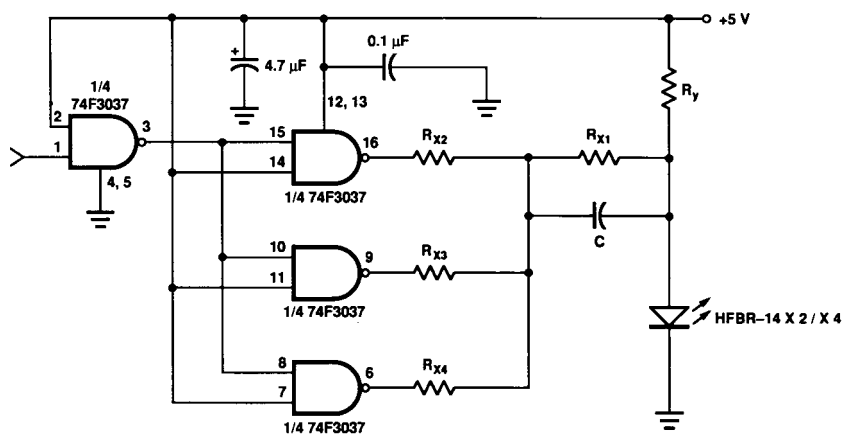

Figure 11. Recommended drive circuit.
- Pre-bias is recommended if signal rate $> 10\text{ MBd}$, see recommended drive circuit in Figure 11.
The circuit used to supply current to the LED transmitter can significantly influence the optical switching characteristics of the LED. The optical rise/fall times and propagation delays can be improved by using the appropriate circuit techniques. The LED drive circuit shown in Figure 11 uses frequency com-